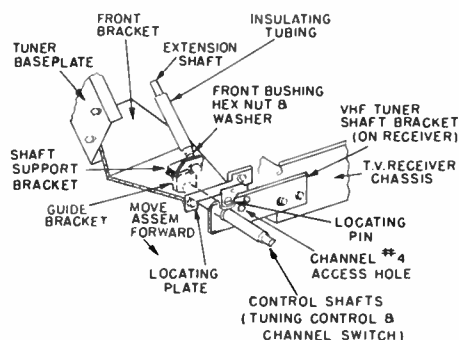

Fig. 9. Front view of the completely assembled front bracket assembly.
(3) Now mount the guide bracket and the correct shaft support bracket in the position shown in Fig. 9. These two are mounted together with the same mounting screws with the guide bracket on the underside and the shaft support bracket on top. The guide bracket is used on all models except the 17T7.
(4) Install the front bushing to the shaft support bracket by means of the hex nut and lock washer as shown in Fig. 9.
into the channel No. 4 oscillator coil access hole. When properly installed, with the locating pin in the proper hole, the locating plate shown in Fig. 9 should fit snugly against the top and side of the tuning shaft bracket. If this fit is not tight enough when the installation is complete, the UHF unit will rock when turning the UHF Selector knob ring. In this case, it will be necessary to reposition the locating plate slightly. This is accomplished by loosening the two No. 6-32 self-tapping screws which hold this locating plate to the front bracket.
Move the complete assembly into the cabinet so the guide bracket rests on the Fine Tuning control shaft in the position shown in Fig. 9. Gently push forward until the locating pin contacts the TV receiver shaft bracket and fits